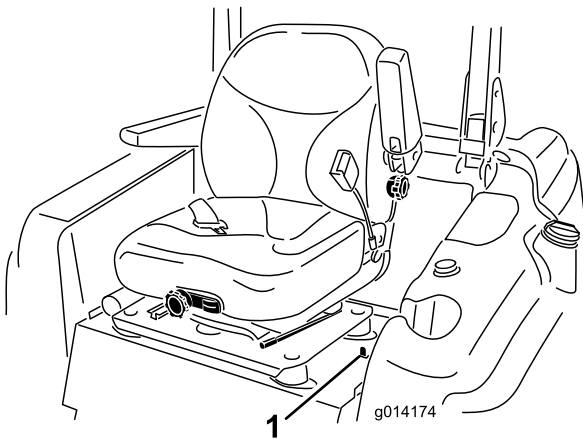

Figure 18
- Move the seat latch, located on the left side of the seat, rearward to unlatch the seat and pull forward on the top of the seat (Figure 18).